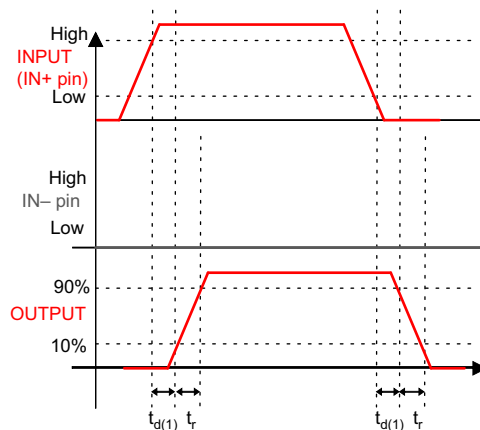
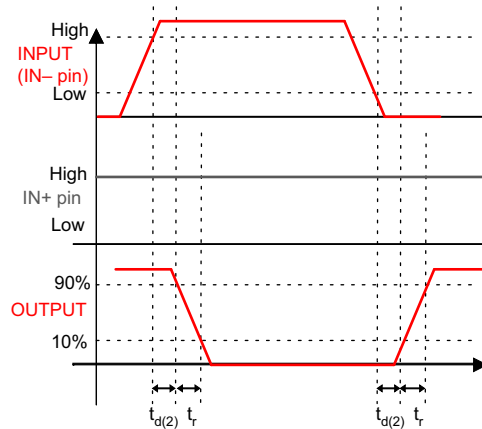
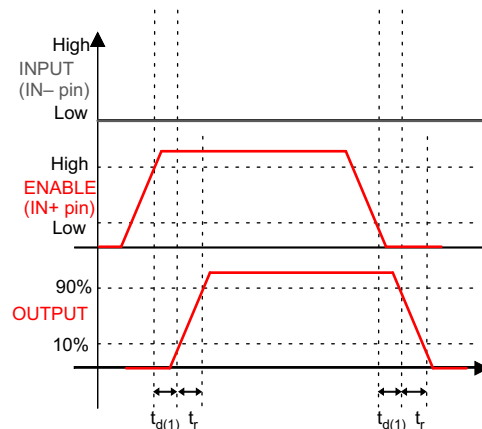

Figure 1. Non-Inverting Configuration (PWM Input to IN+ pin (IN– Pin Tied to GND), Output Represents OUTH and OUTL Pins Tied Together in the UCC27511A-Q1)
Figure 2. Inverting Configuration
Figure 3. Enable And Disable Function Using IN+ Pin
$V_{DD} = 12\text{ V}$, $T_A = T_J = -40^\circ\text{C}$ to 140°C , $1\text{-}\mu\text{F}$ capacitor from V_{DD} to GND. Currents are positive into, negative out of the specified terminal. See Figure 1, Figure 2, Figure 3, and Figure 4
(1) See timing diagrams in Figure 1, Figure 2, Figure 3, and Figure 4.